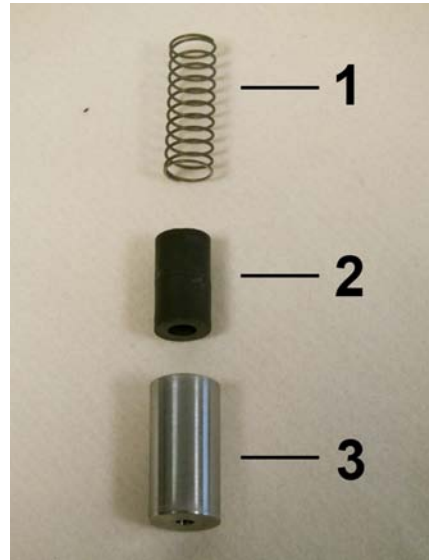

Fig. 44: Inner parts
3. ➤ Insert spring (Fig. 44/1) with magnets (Fig. 44/2) into the float (Fig. 44/3), ensuring proper magnetic pole orientation (north pole toward device outlet).